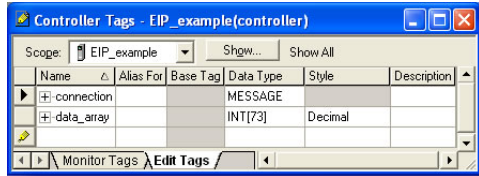

Figure 93: Create New Tags
- b) The “Controller Tags” window appears. Refer to Figure 93.